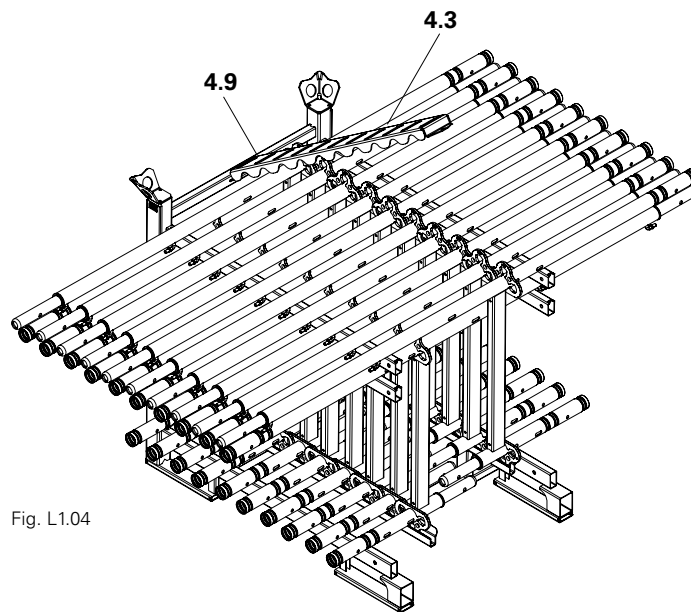

Fig. L1.04
4. Insert the securing strip (4.3) into the groove (4.9) and fold it downwards. (Fig. L1.04)